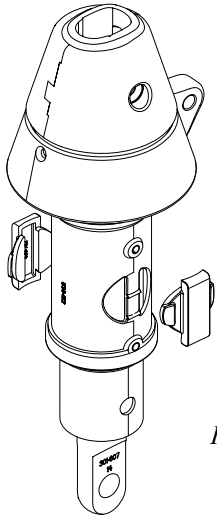

Fig. 5.3.2a
2. Insert the two carriers according to fig. 5.3.2a. Secure with tape or hold them during assembly.